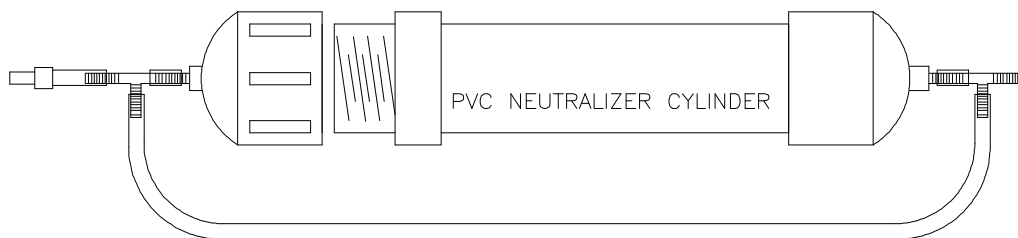

Figure 4.
3. If the furnace is equipped with a Thermo Products, Inc. condensate neutralizer kit, (See Figure 4) it should be inspected at the start of every heating season. Remove the 2" PVC cap from the neutralizer kit and replace dissolved filter material with #9 limestone. Keep instructions for neutralizer kit in plastic pouch on the inside of the furnace blower door.